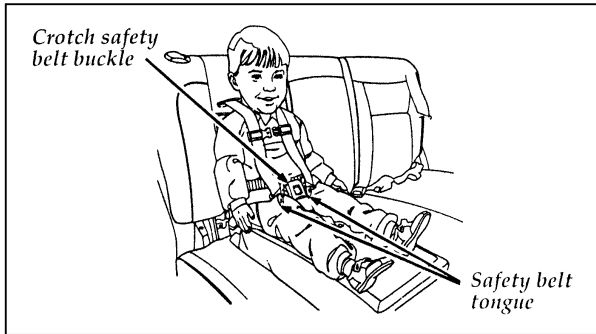

Figure 5: Shoulder safety belt placement on the child
6. Place the child on the child seat and position the shoulder belts over each shoulder. Refer to Figure 5.
3. Slide the shoulder belts off the child's shoulders and remove the child. Refer back to Figure 5.